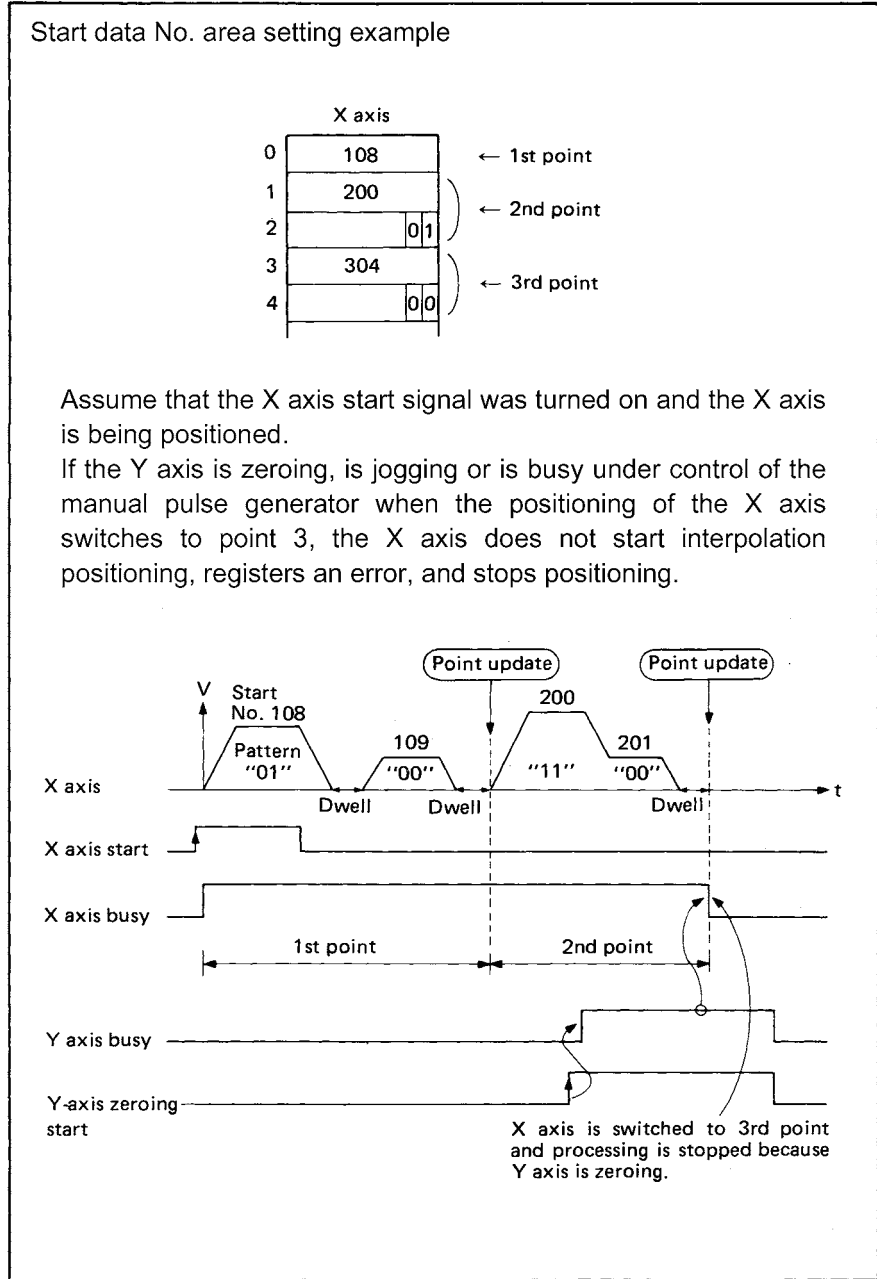

Fig. 3.29 Start Data Example 4
- 4) If the start axis is set to an interpolation start (00) or dual start (11) and the other axis is busy with other than positioning, an error occurs and the positioning process of the original axis is stopped. (Refer to Fig. 3.29.)